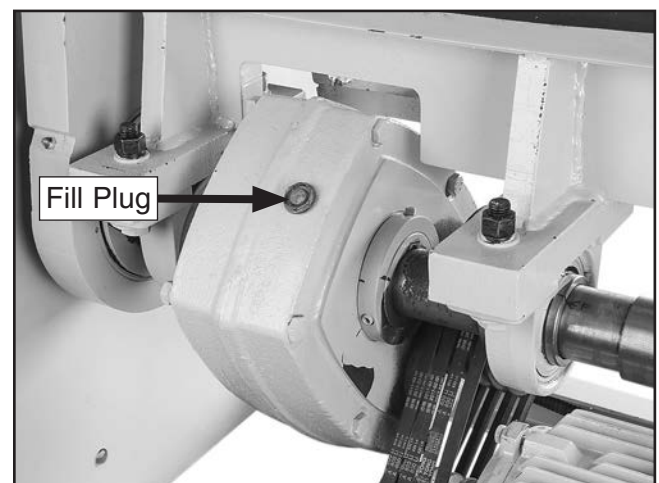

Figure 50. Gearbox fill plug (rear of machine).
5. Working at rear of machine, remove fill plug (see **Figure 50**).